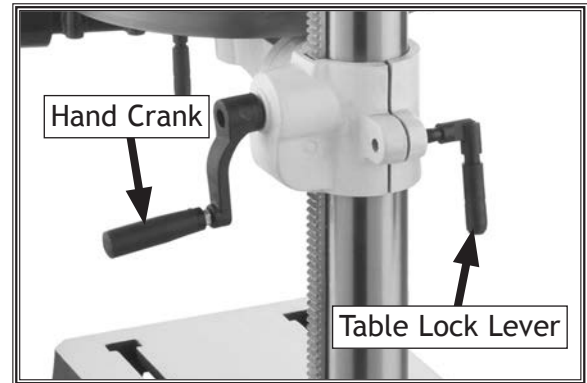

Figure 33. Location of height controls.
1. Loosen the table lock lever (see **Figure 33**).
2. Turn the hand crank to raise or lower the table (see **Figure 33**).